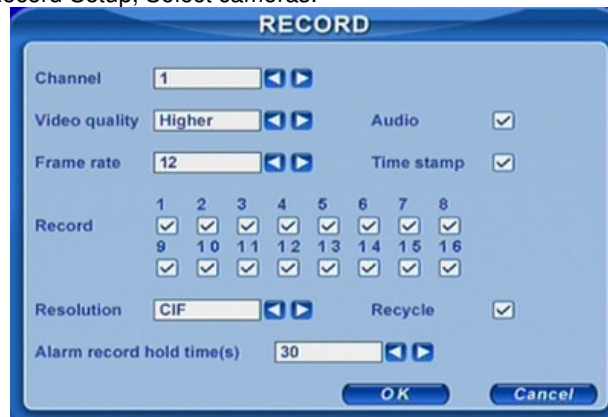

Fig 3.7 Record Setup
STEP1 Enter RECORD configuration, refer to Fig 3.7 Record Setup, Select cameras.